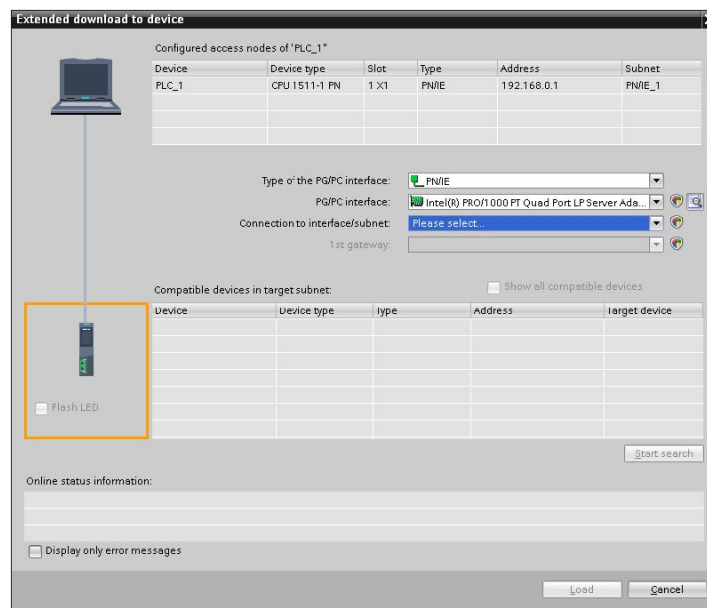

Figure 85. Network Download Selection
2. Select **PLC_1** and click **Download to Device** to select the network to download (see Figure 85).